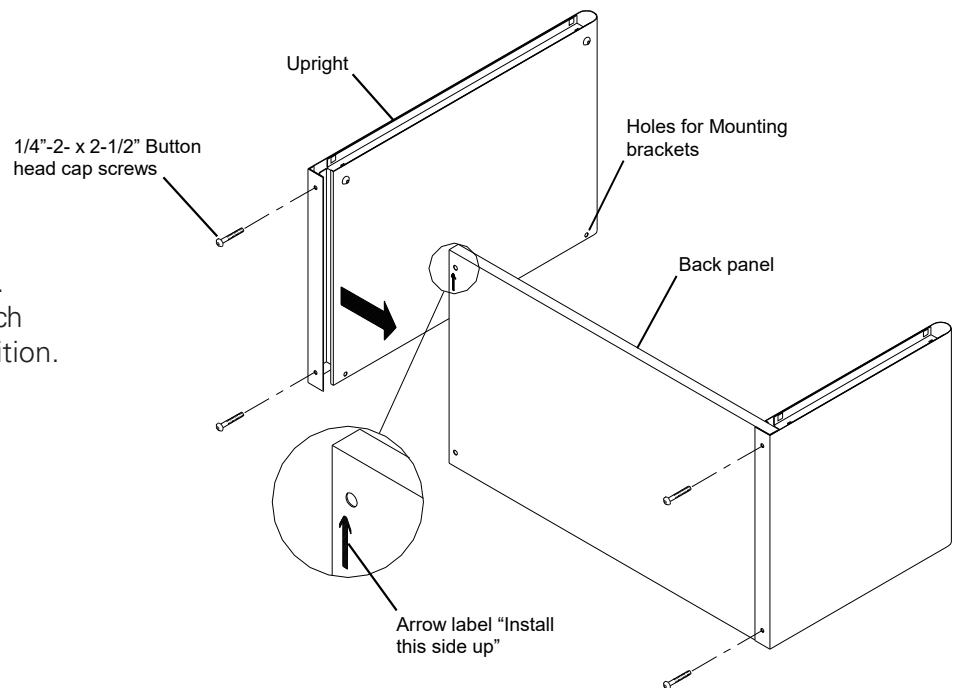

Figure 1
1. Phillips 1. Carefully slide the **Uprights** over the ends of the **Back Panel**. Be sure that the holes for Mounting Brackets are at the bottom of the Uprights. See figure 1.
2. Install the $\frac{1}{4}$ "-20 x $2\frac{1}{2}$ " Button head cap screw through the Uprights and through the Back Panel. Thread the screws in until their heads touch the Uprights (snug fit). **DO NOT TIGHTEN.** See figure 1.